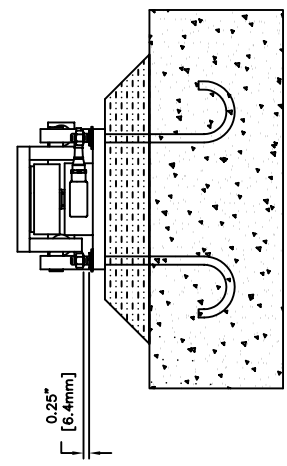

FIGURE 2: LEAVE 1/4" GAP FOR POSITIONING
- Install bolts and nuts as required. DO NOT fully tighten down the disc at this time. Leave a 1/4-inch gap between the nut and the washer to allow for positioning of the Load Discs. (See Figure 2: Gap for positioning).
- Tighten the bolts, leaving a 1/4-inch gap for positioning. (See Figure 2 Gap for Positioning).